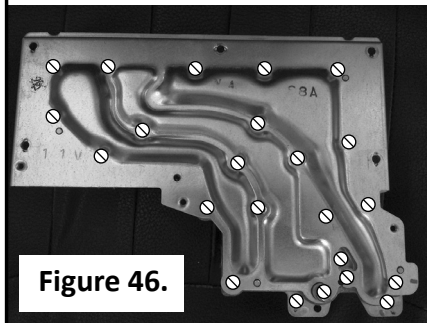

Figure 46.
- 8.3 Remove the screws that secure the manifold plate (Figure 46).